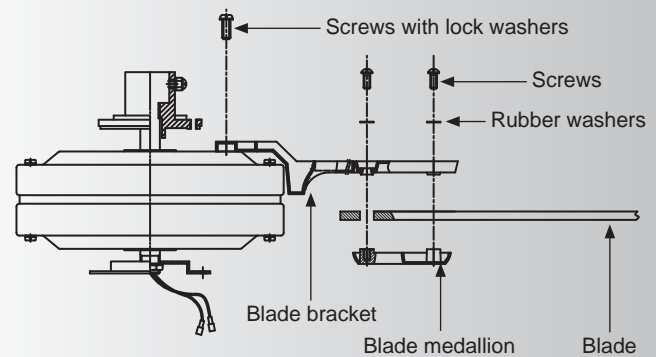

Fig. 6
Place a blade between the blade bracket and the blade medallion. Start each screw in the blade bracket. (Fig. 6)
Step 3. Attach each blade assembly to the motor using the "Pre-Installed" mounting screws in the blade bracket. (Fig 6)